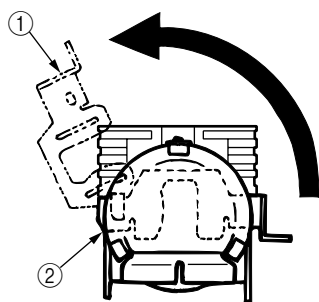

Figure 3-2
- (1) Open the access over.
- (2) Pull up and rotate the head clamp ① to unclamp the printhead ② as shown Figure 3-2.
- (3) Disconnect the printhead ② from PC connector ③.
- (4) To install, follow the removal steps in the reverse order.